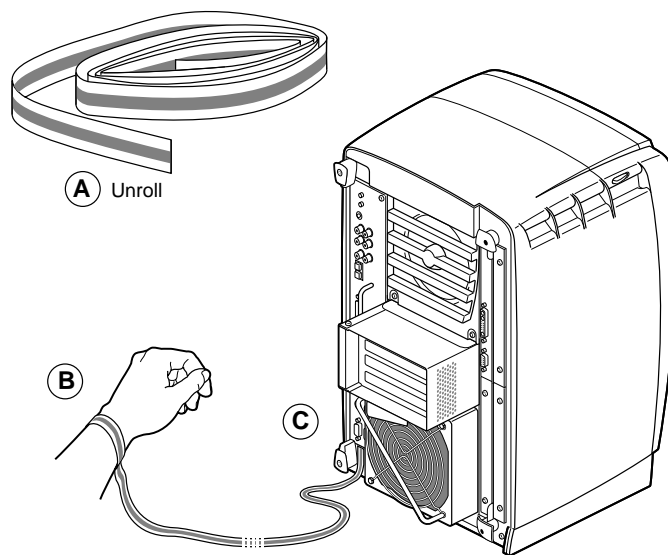

Figure 5 Attaching the Wrist Strap
1. Unroll the first two folds of the band (see A in Figure 5).
2. Wrap the exposed adhesive side firmly around your wrist (B), unroll the rest of the band, and then peel the liner from the copper foil at the opposite end.
3. Attach the copper foil to any exposed electrical ground, such as a metal part of the workstation (C).